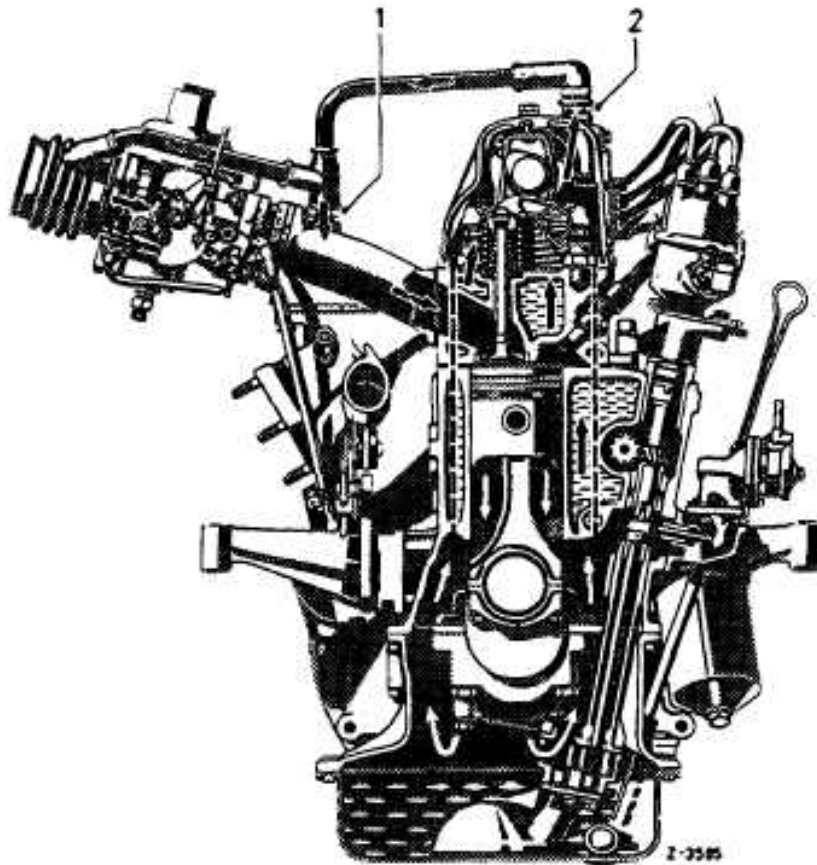

Fig. 01-1/1
Engine blowby gases and cylinder crankcase vapors flow through the connection (2) in the cylinder head cover to the water separator with bypass nozzle (1) on intake manifold behind carburetor (Fig. 01-1/1).